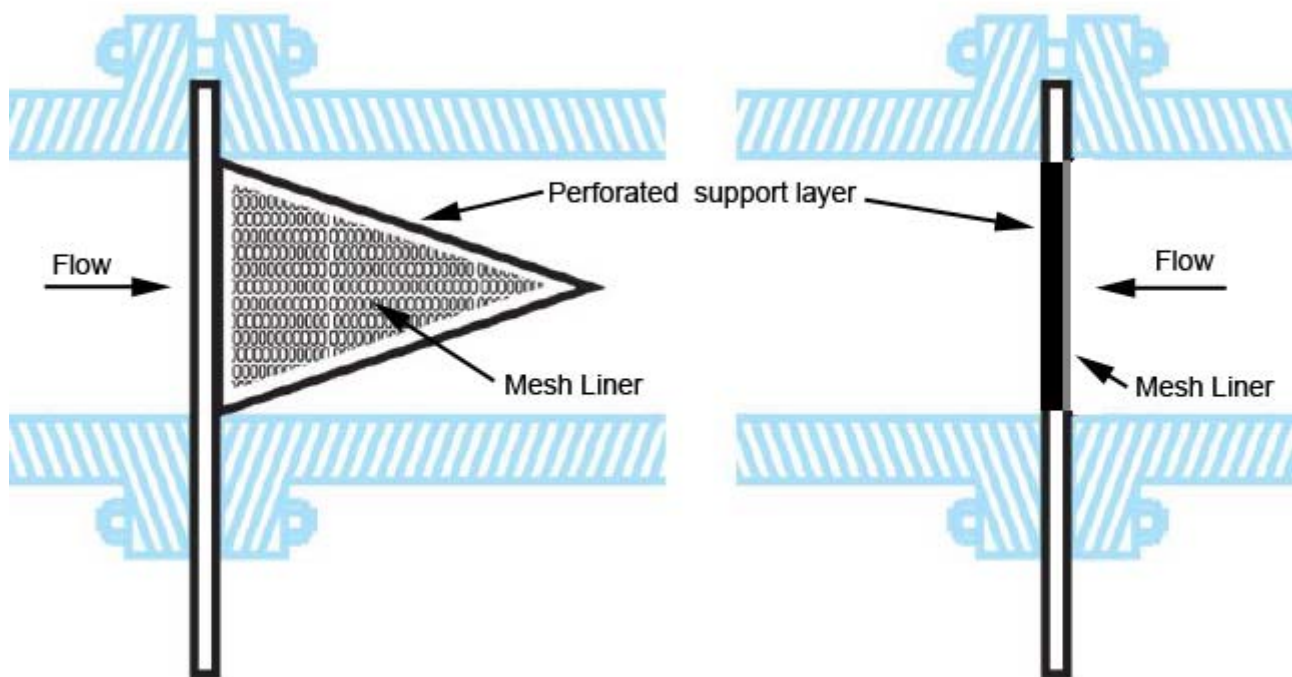

Figure 1
2. Simply install the strainer into the pipeline and situate it between the pipe flanges. Insure that the mesh lining, if provided, is “facing” the flow. The strainer is designed to be self-centring between the pipe flanges and bolting. Be sure to install the necessary gaskets and bolting. Torque bolts properly by using standard piping practices. See Figure 1.